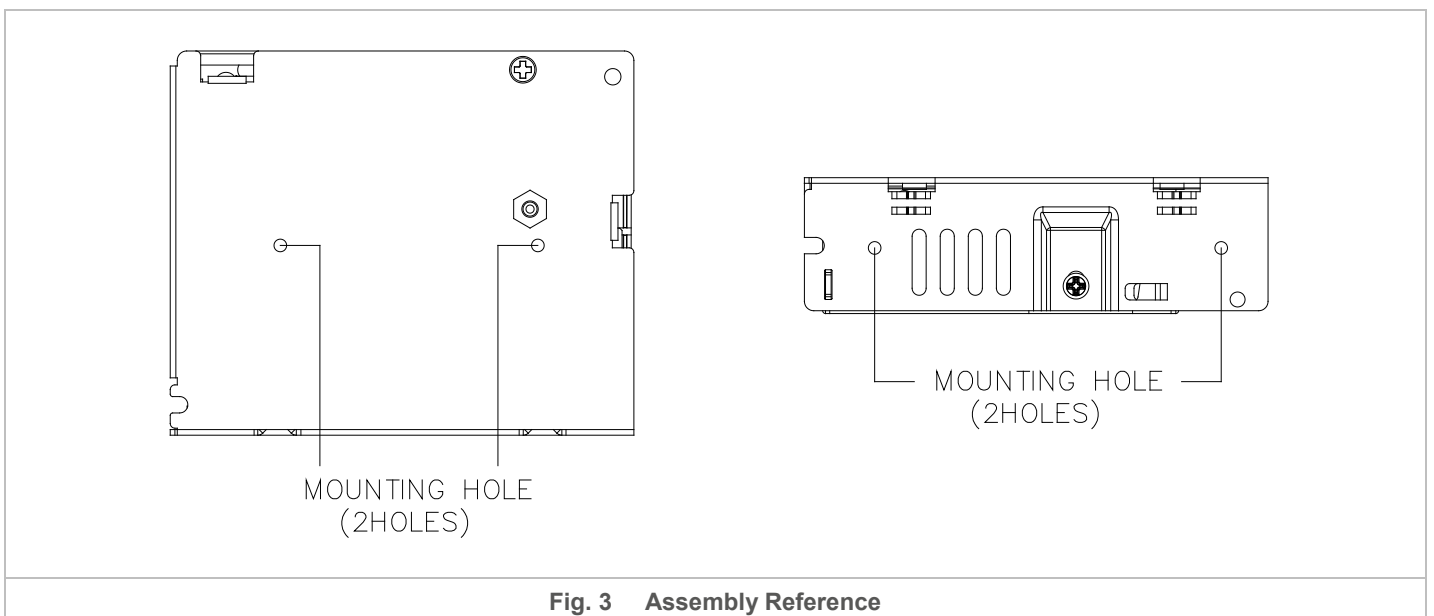

Fig. 3 Assembly Reference
- Use flexible cable (stranded or solid) of AWG No. 18-12. User should calculate and select the suitable wire specification (type/quantity/diameter) according to actual output current. The torque at the Connector shall not exceed 8Kgf.cm. (6.94lbf.in). The insulation stripping length should not exceed 0.275" or 7mm (Refer to Fig. 3).